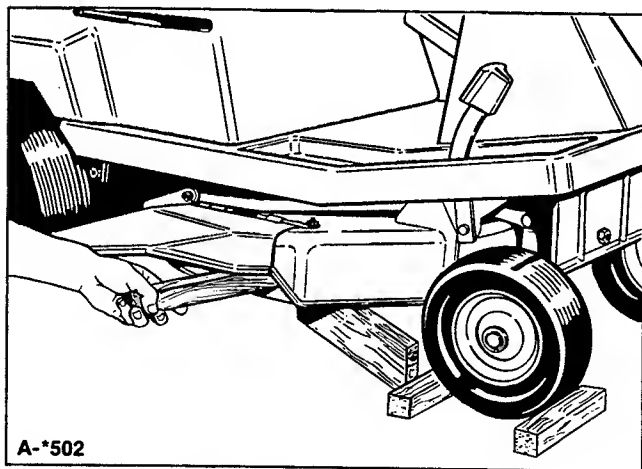

Figure 8. Blade Removal
5. To keep the blade from turning while removing the mounting capscrew, wedge a wood block between blade and housing. Insert the block thru the discharge opening and turn the blade counterclockwise until it presses against the block. See figure 8.